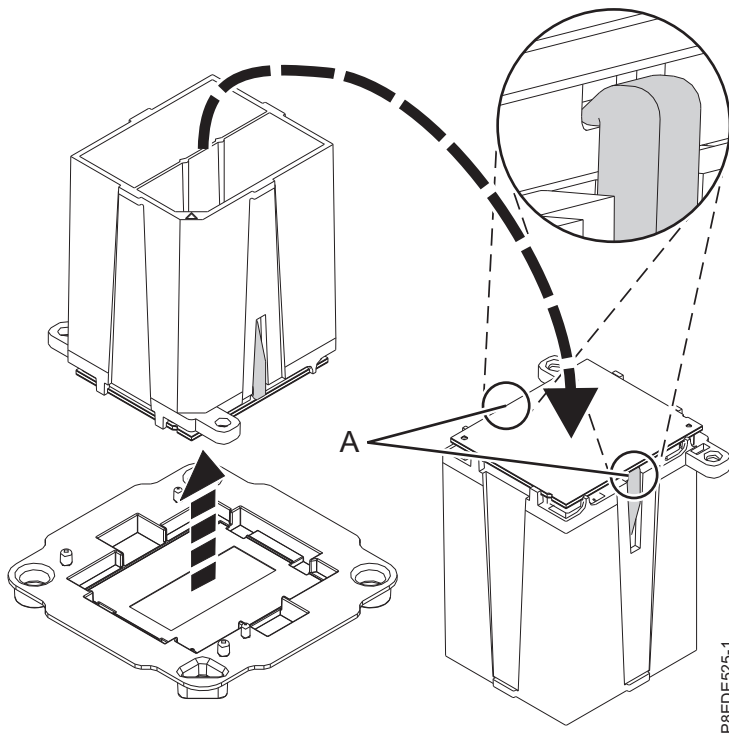

Figure 189. Preparing for system processor module installation
- b. Ensure that both jaws (A) are firmly grabbing the system processor module, as shown in Figure 189.